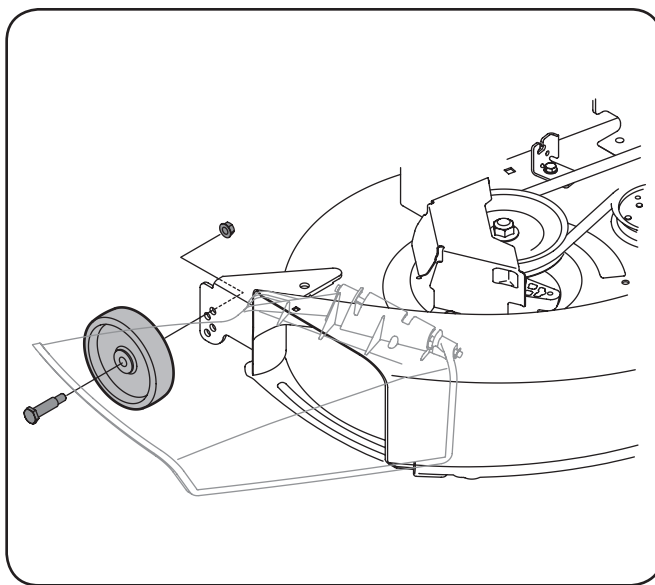

Figure 3-5
- b. Remove the gauge wheels by removing the lock nuts and shoulder screws which secure them to the deck. See Fig. 3-5.